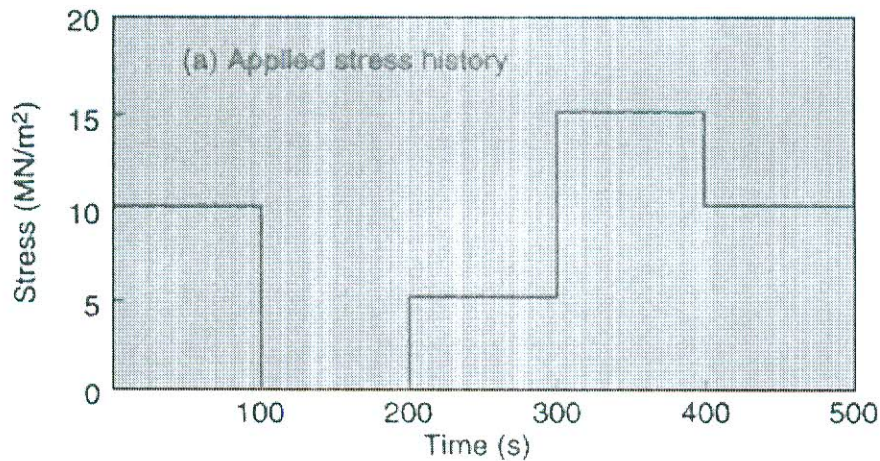

Figure 1 - Applied stress history for a plastic subjected to creep test
2. [a] A plastic which can have its creep behavior described by a Maxwell model is to be subjected to the stress history shown in Figure 1. If the spring and dashpot constants for this model are 20 GNm^{-2} and 1000 GNm^{-2} respectively then predict the strains in the material after 150, 350 and 450 seconds.